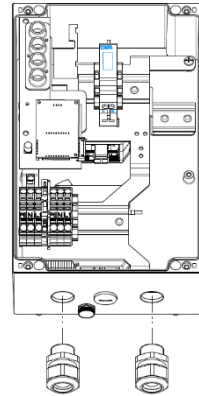

Figure 2
6. Loosen the collet and remove it together with the rubber ring from the screw connection (fig. 2).